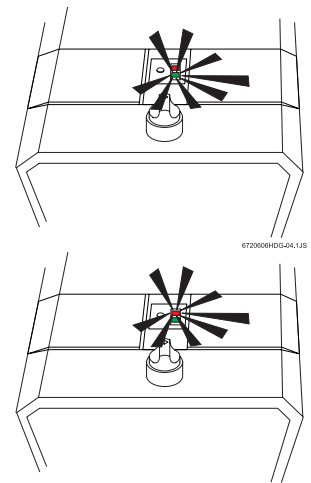

Figure 9
2. The gas valve must be shut off by putting the ON/OFF switch to position "■". Wait five (5) minutes to clear out any gas. If you smell gas, STOP! Follow "B" in the safety information above. If you do not smell gas, go to the next step.
4. Set the ON/OFF switch to the "■" position. In this position, the water heater is ready to use. (See Figure 9).
The On/Off switch is located behind the flipdown cover plate on the front panel strip. See fig. 9.